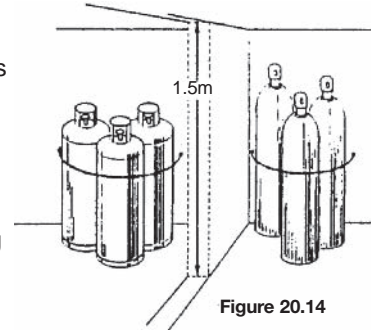

Figure 20.14
- containing flammable gases unless they are separated by a partition at least 5 feet high and having a fire-resistance rating of at least 30 minutes (Figure 20.14).